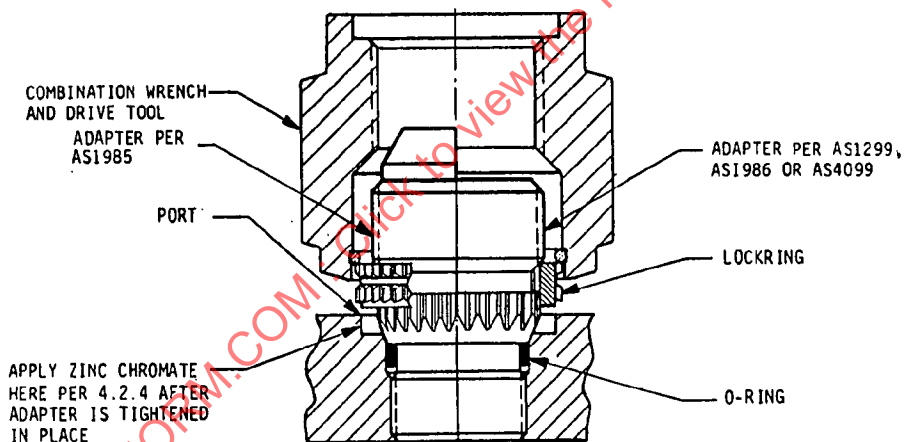

FIGURE 3 -Torquing Adapter Assembly
- 4.2.3 Using the applicable combination wrench and drive tool in Table II, engage the serrations of the tool with those on the external serrations of the adapter locking per Fig. 3. Place a torque wrench of the proper size over the hex of the wrench and apply a torque equal to the minimum value specified in Table II. Note the relationship of the serrations of the locking with respect to the prebroached serrations in the port. If they match, proceed to 4.2.4. If the serrations do not match the prebroached serrations in the port, continue to slowly torque the adapter toward the maximum value allowed in Table II until the serrations of the locking match the port serrations. This will normally take between 3 and 8 deg of turning and the maximum value need not be reached if the serrations align themselves prior to that value. Do not exceed maximum torque values.